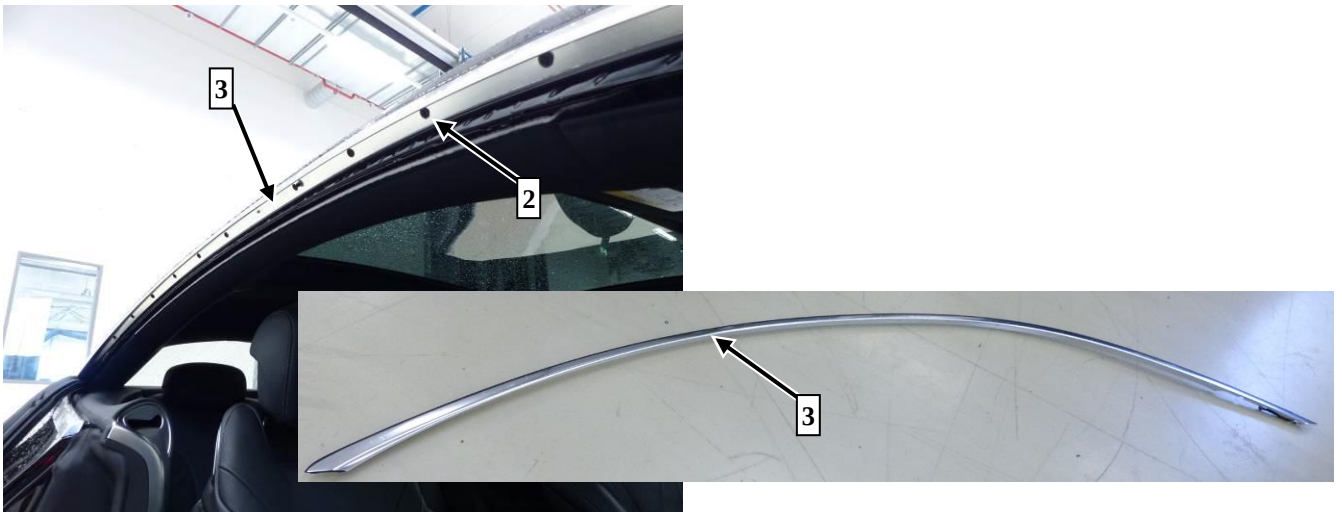

Figure 2
2.  Remove the mounting rail (3, Figure 2) on the driver and passenger side.